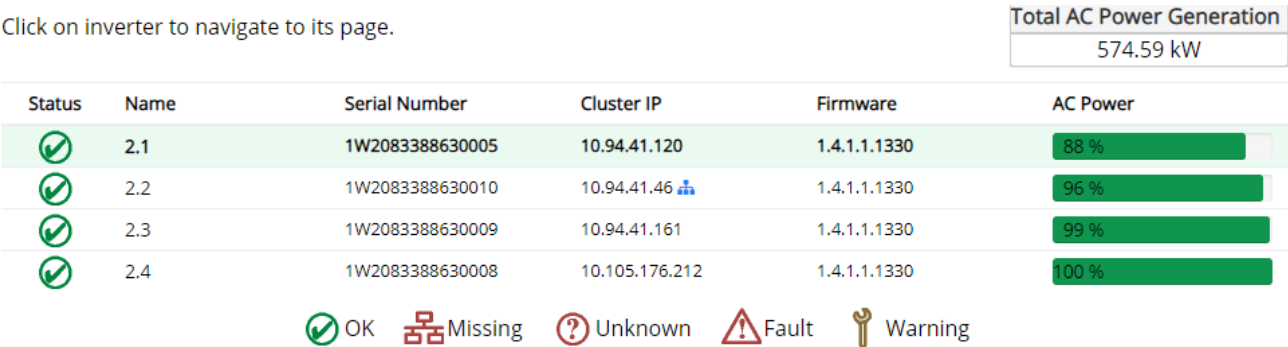

Figure 6-1 Inverter List Example
The Inverter List displays the names, serial numbers, Cluster IP addresses, and status of the all inverters registered to the Cluster, or currently connected to the Cluster, see Figure 6-1. To navigate to a particular inverter, select the name of the inverter by clicking it.
- In the sample inverter list in **Error! Reference source not found.**Figure 6-1, several nodes are worth noting.